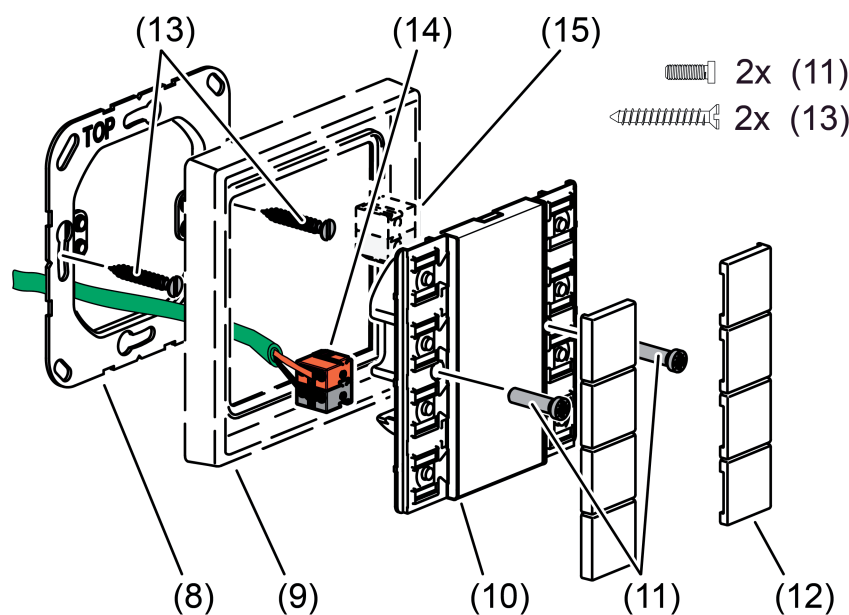

Figure 6: Mounting the room controller display compact module
- Place the Design control surfaces individually on the device. For the arrangement of the Design control surfaces, see "Device components" (figure 6)